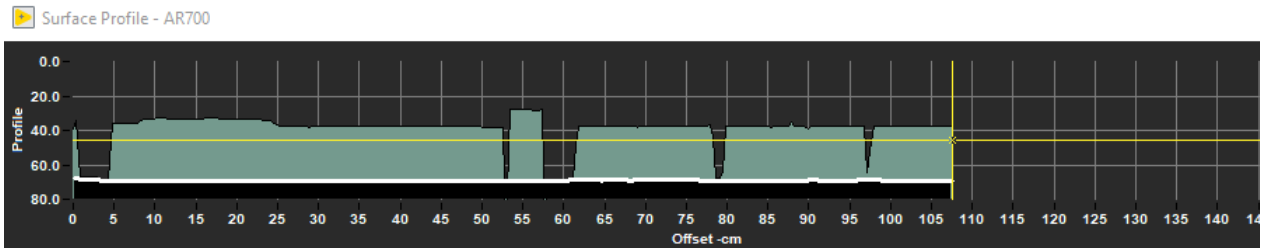

Figure 8. Laser Profile.
6. The sensor assembly moves to the bottom of section. A surface profile, taken by the laser, will be acquired (Figure 8).